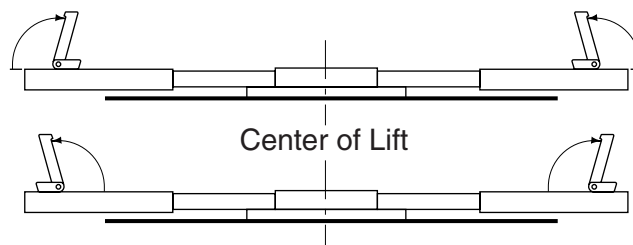

Fig. 6
- Rotate front and rear adapter to oppose each other when using the high step adapter and/or any auxiliary height extending adapter, Fig. 6.